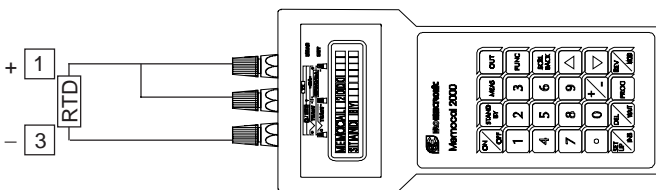

Fig. 7
- b) Measure the temperature close to terminals 1 and 3 using a calibrator, for instance, the MEMOCAL (see Fig. 7).